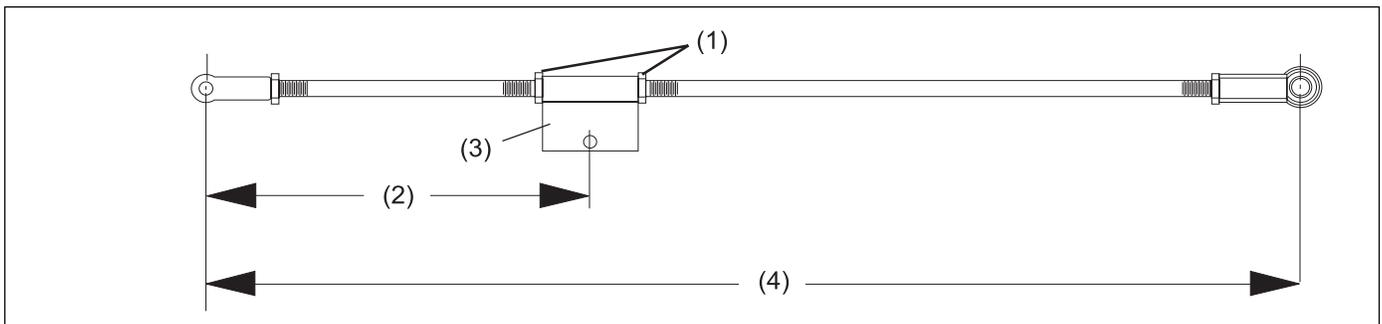

Figure 24. Note Measurement for Reinstallation
- i. Measure the overall length between centers of the turnbuckle and clevis. Refer to Figure 24. **Note this measurement for future use!** Manufacturer's set length is 28.37" (720 mm) from center to center but this length may have been altered during initial installation of components.
- (1) JAMNUTS
- (2) 10" MINIMUM
- (3) DRIVE YOKE
- (4) NOTE MEASUREMENT FOR REINSTALLATION
- j. Loosen the jam nuts on both sides of the black drive yoke that attaches the drive link to the motor sleeve. Refer to Figure 24.
- k. Thread the short rod into the yoke to reduce the distance between centers of the yoke and the clevis end of linkage. Refer to Figure 24.